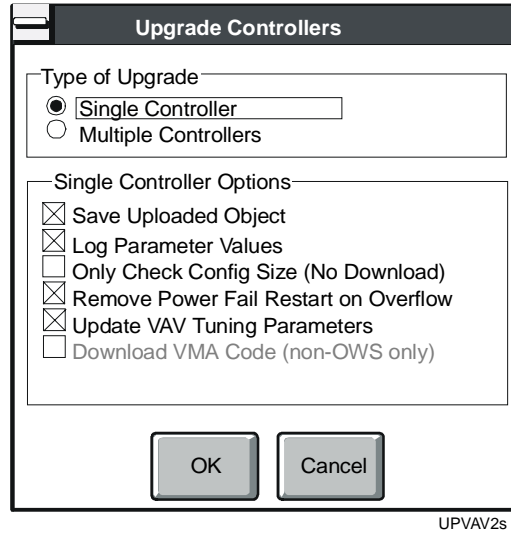

Figure 16-5: Upgrade Controllers Dialog Box
2. Choose Single Controller in the dialog box that appears as shown in Figure 16-5.